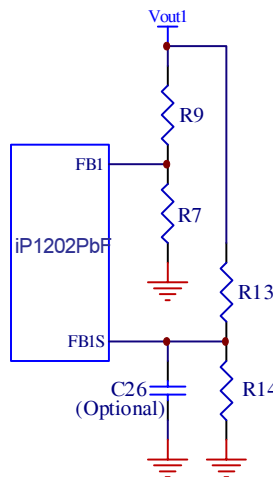

Fig. 17: Typical scheme for output voltage setting
Both outputs of the iP1202PbF will shut down if either one of the outputs experiences a voltage in the range of 115% of V_{OUT} . The overvoltage sense pins FB1s and FB2s are connected to the output through voltage dividers, R_{13} and R_{14} (Fig. 17), and the trip setpoints are programmed according to equation (1). Separate overvoltage sense pins $FB1_s$ and $FB2_s$ are provided to protect the power supply output if for some reason the main feedback loop is lost (for instance, loss of feedback resistors). An optional 100pF capacitor (C26) is used for delay and filtering purposes. If this redundancy is not required and if Type II control loop compensation scheme is utilized, FB1s and FB2s pins can be connected to FB1 and FB2 pins respectively.
When selecting output capacitors, it is important to consider the overshoot performance of the power supply. If the amount of capacitance is not adequate, then, when unloading the output, the magnitude of the overshoot due to stored inductor energy, and depending on the speed of the response of the control loop, can exceed the overvoltage trip threshold of the iP1202PbF and can cause undesirable shutdown of the output. The magnitude of the overshoot should be kept below 1.125 V_{OUT} . To prevent the overshoot from tripping the output a delay can be added by installing capacitor C26 as shown in Fig.17.